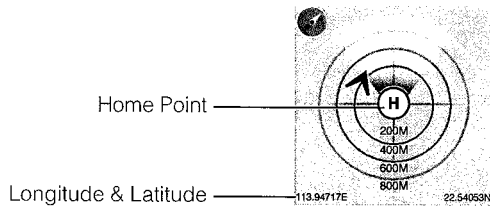

Figure 69
- Distance units are metric in Figure 69 and Figure 70. Users can switch the unit to imperial in the settings page.